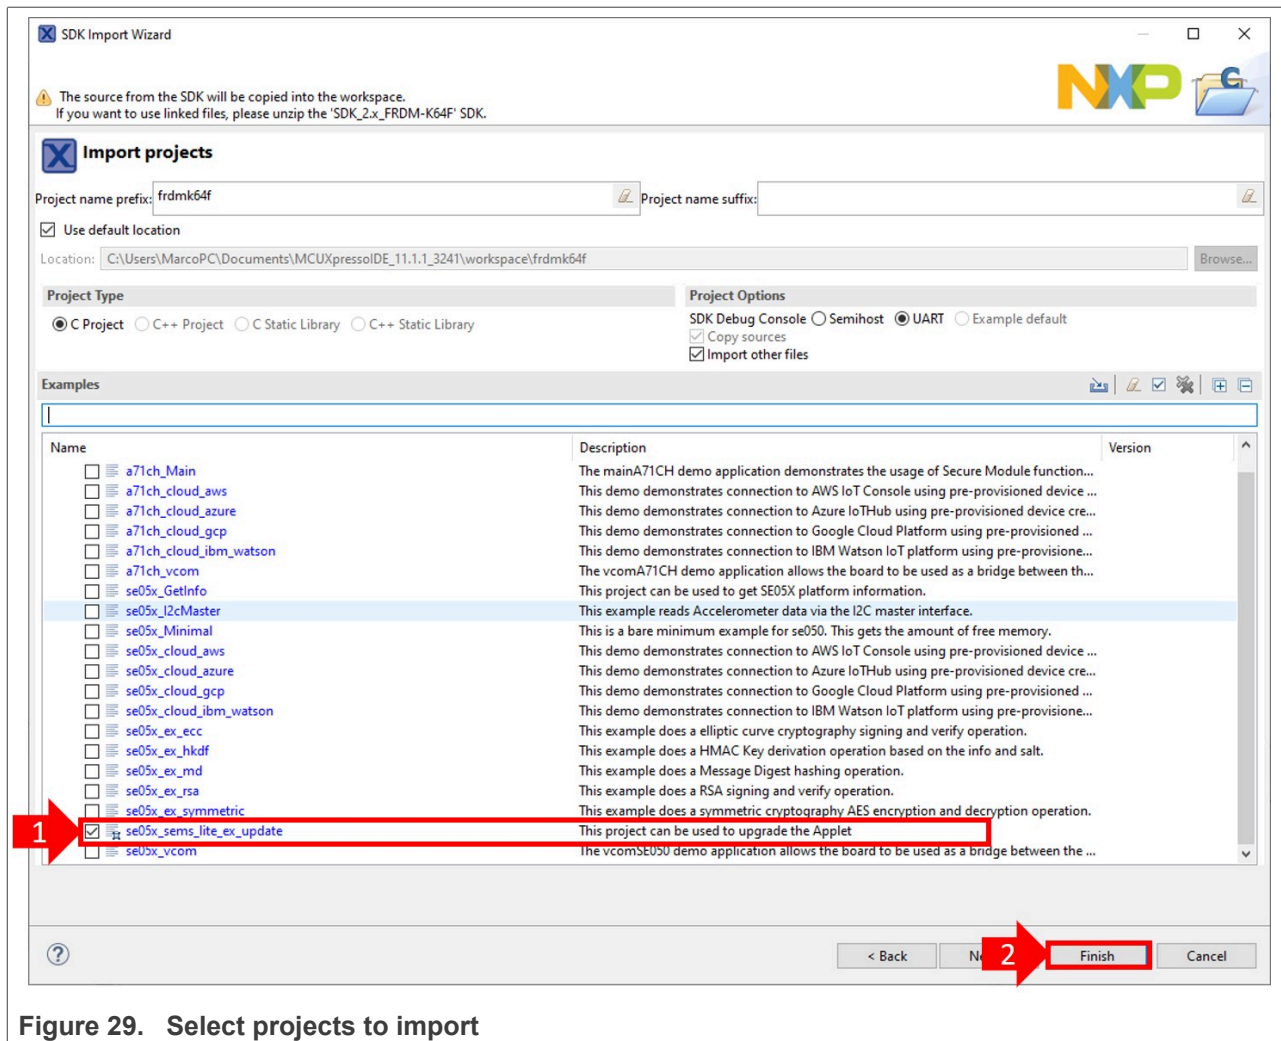

Figure 29. Select projects to import
3. The `se_hostlib_examples` drop down list shows the list of available project examples for the FRDM-K64F. Select the number of project examples you would like to import in your MCUXpresso workspace and click the *Finish* button. In this case, select the `se05x_sems_lite_ex_update` project as shown in Figure 29.